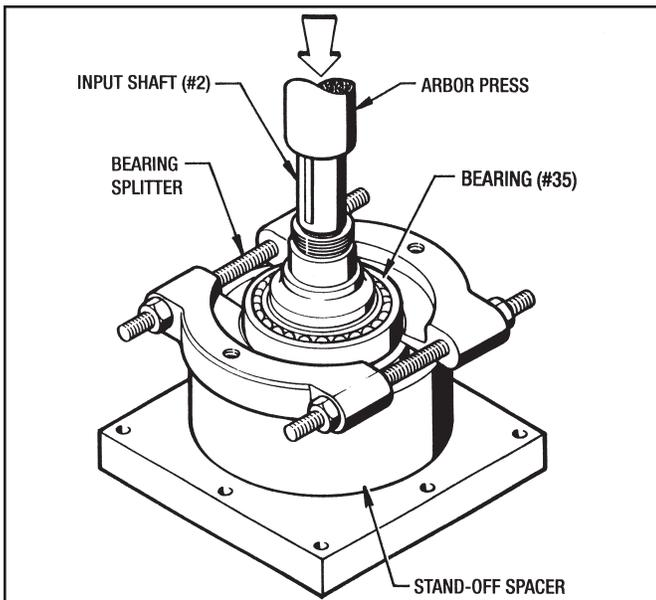

Figure 7.5 - Removing Bearing from the Input Shaft
3. Use a Bearing Splitter to remove Bearing (#35) from the Input Shaft. (See Figure 7.5).
4. If Bearing (#28) has to be replaced, use a Bearing Splitter, like the one shown in Figure 7.5, to remove it.